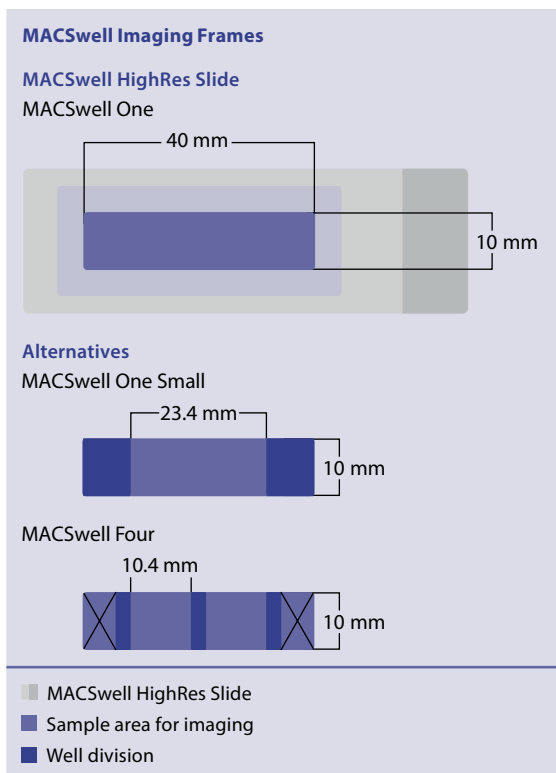

Figure 2: Sample area of the MACSwell Imaging Frames.
1. Prepare a MACSwell HighRes Slide with a fixed tissue sample. For positioning the sample(s) on the slide refer to figure 2. Maximum sample sizes are listed in table 1.